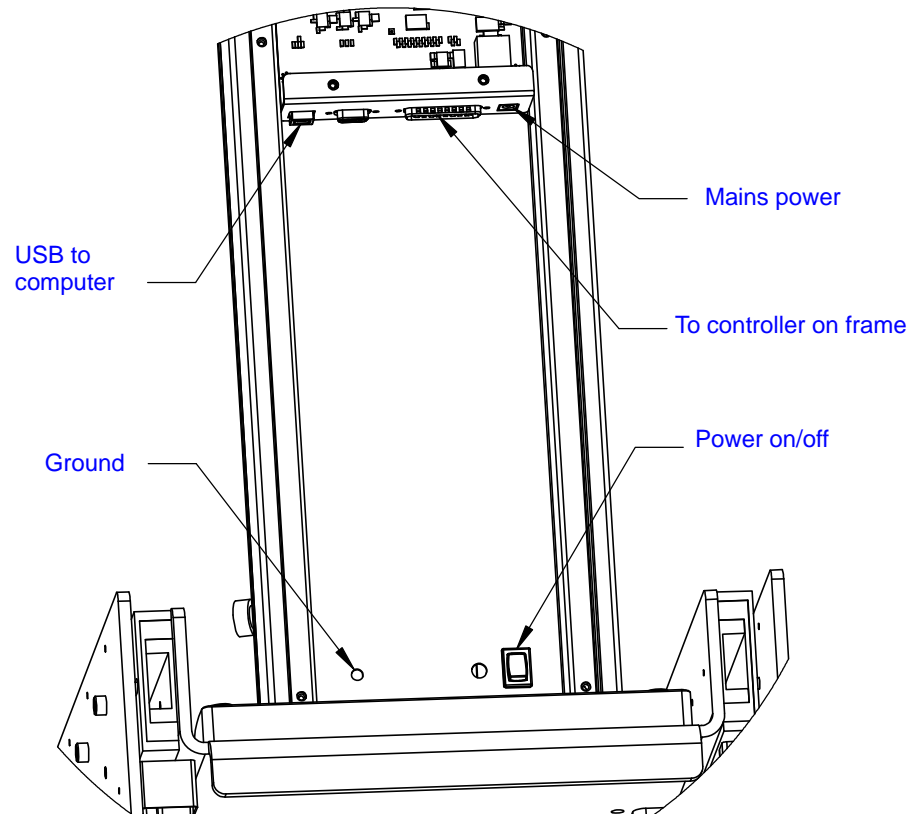

Figure 3. AutoX Connections
1. Turn off power to the AutoX (see Figure 3 on page 20).
4. Disconnect and remove the following cables from the rear panel of the AutoX (see Figure 3 on page 20):
7. Reconnect the following cables from the rear panel of the AutoX (see Figure 3 on page 20):